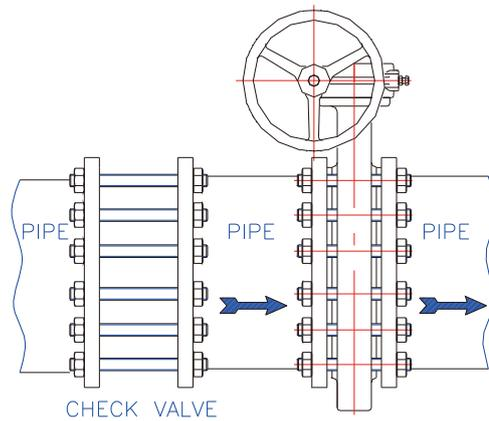

Fig.6
4.8. Using an extension tube between wafer check valve and butterfly valve, never connect them directly (Fig.6)